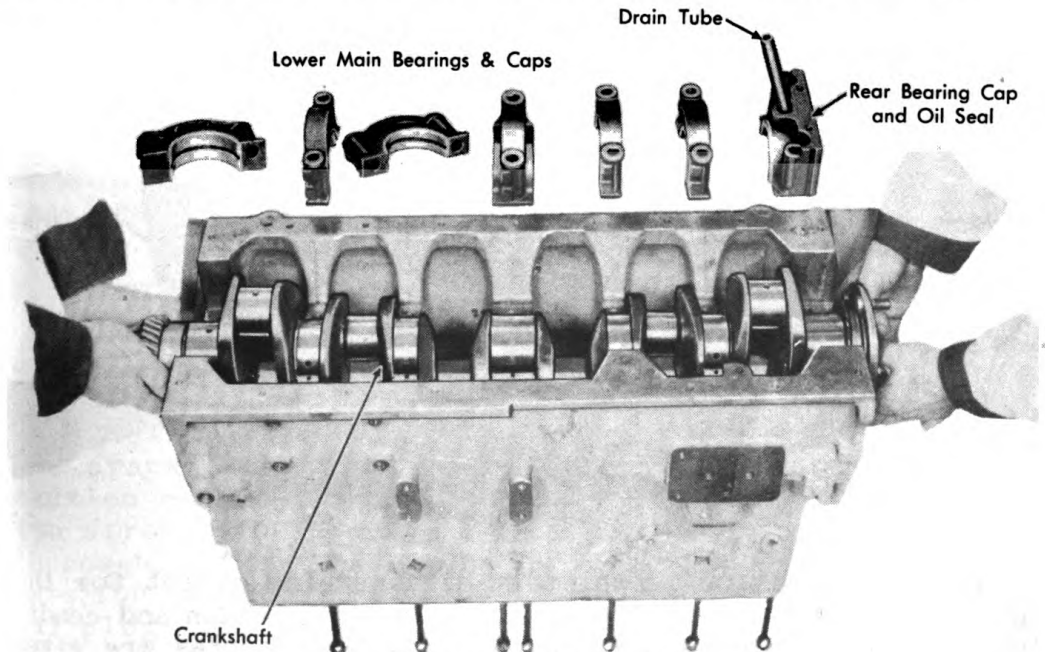

Figure 137. Removing Crankshaft.
34. Carefully lift the crankshaft out of the crankcase, as shown in Figure 137, so as not to damage the bearing surfaces.